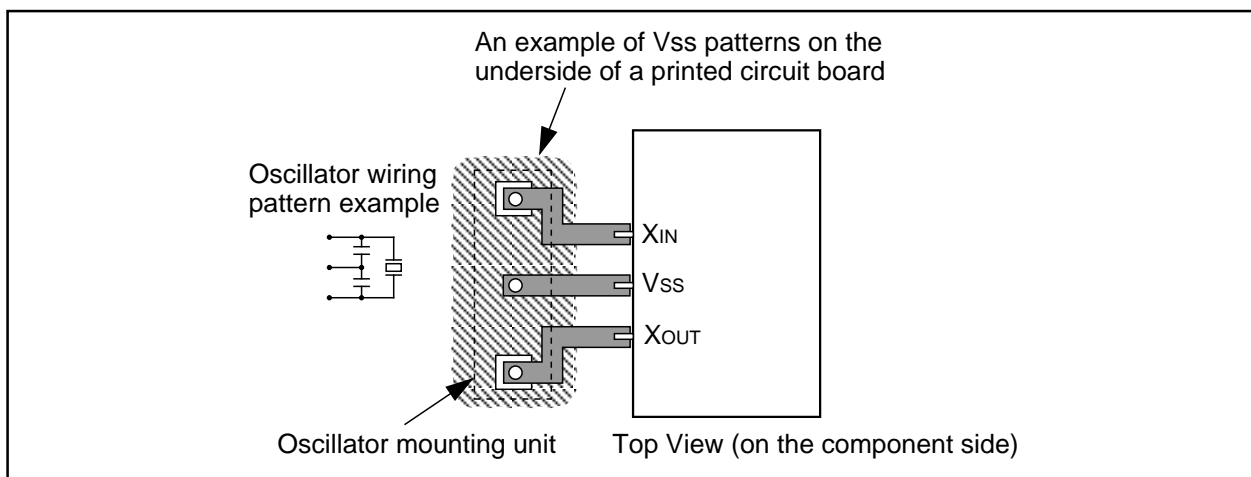

Figure 1.4.3. VSS pattern on the underside of an oscillator
- Separate the Vss pattern only for oscillation from other Vss patterns. (See Figure 1.4.3.)